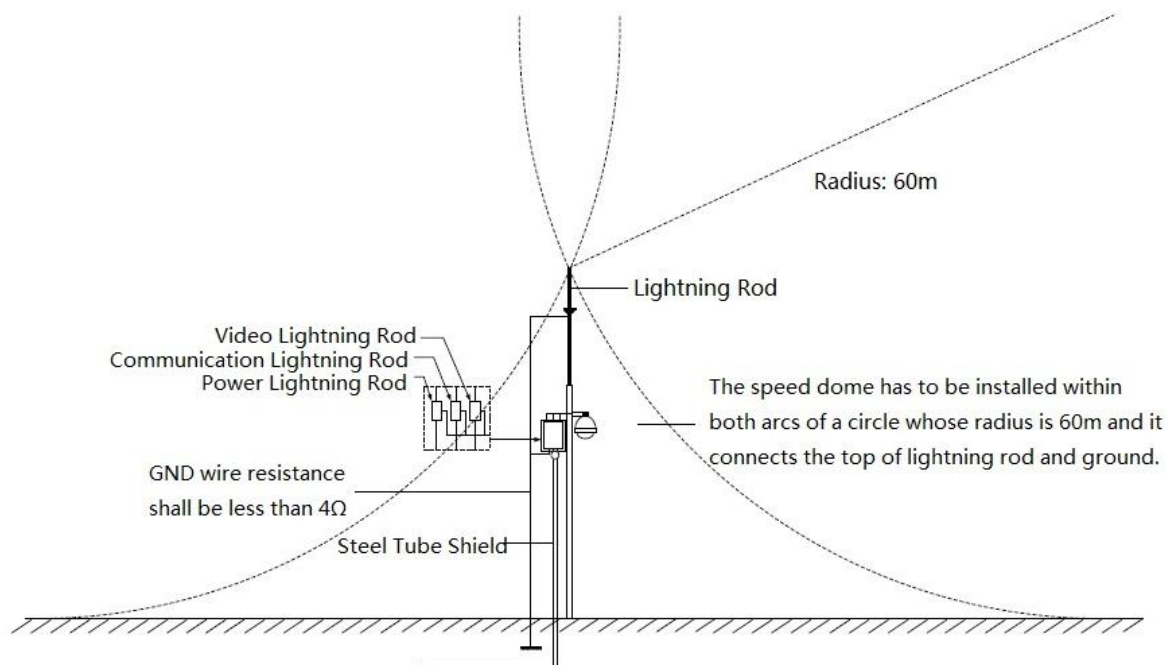

Figure 6-1
- System shall adopt equal-potential wiring. The earth device shall meet anti-jamming and at the same time conforms to your local electrical safety code. The earth device shall not short circuit to N (neutral) line of high voltage power grid or mixed with other wires. When connect the system to the earth alone, the earth resistance shall not be more than  $4\Omega$  and earth cable cross-sectional area shall be below  $25\text{ mm}^2$ . See Figure 6-1.